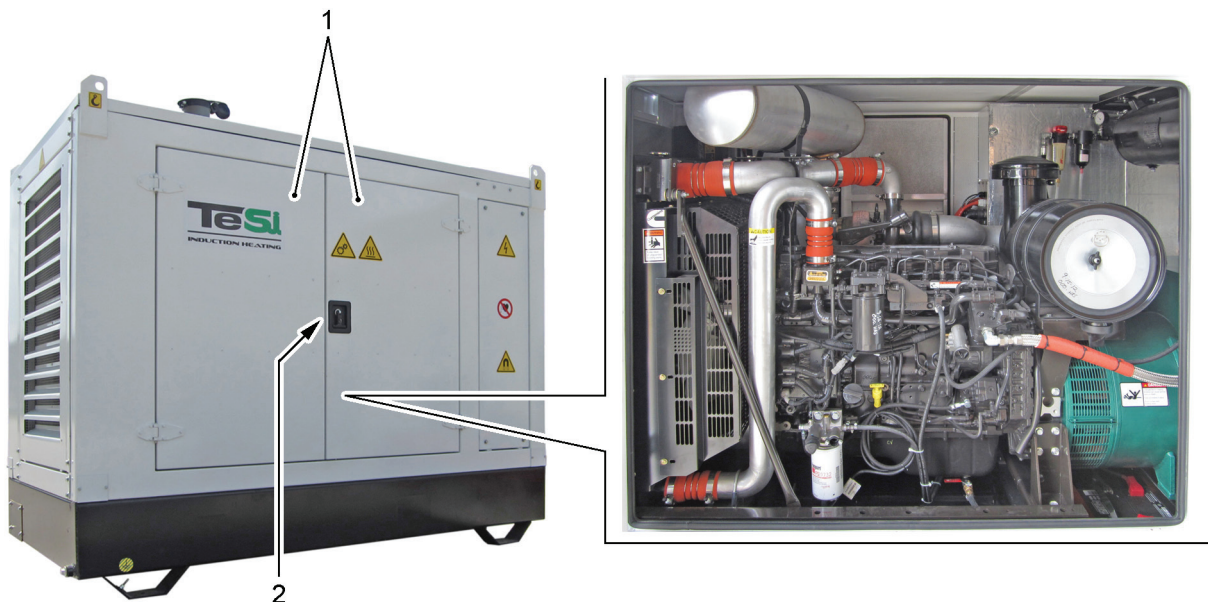

Figure 6.13 - Opening of the access door to the engine (rear part)
- a. Open the access door to the engine (see Figure 6.13/1), situated on the generator rear part, by acting on the relevant handle (2), after having removed the locking padlock.
- c. Close the access door to the engine (see Figure 6.13), by acting on the handle (2) and lock it by means of the locking padlock.